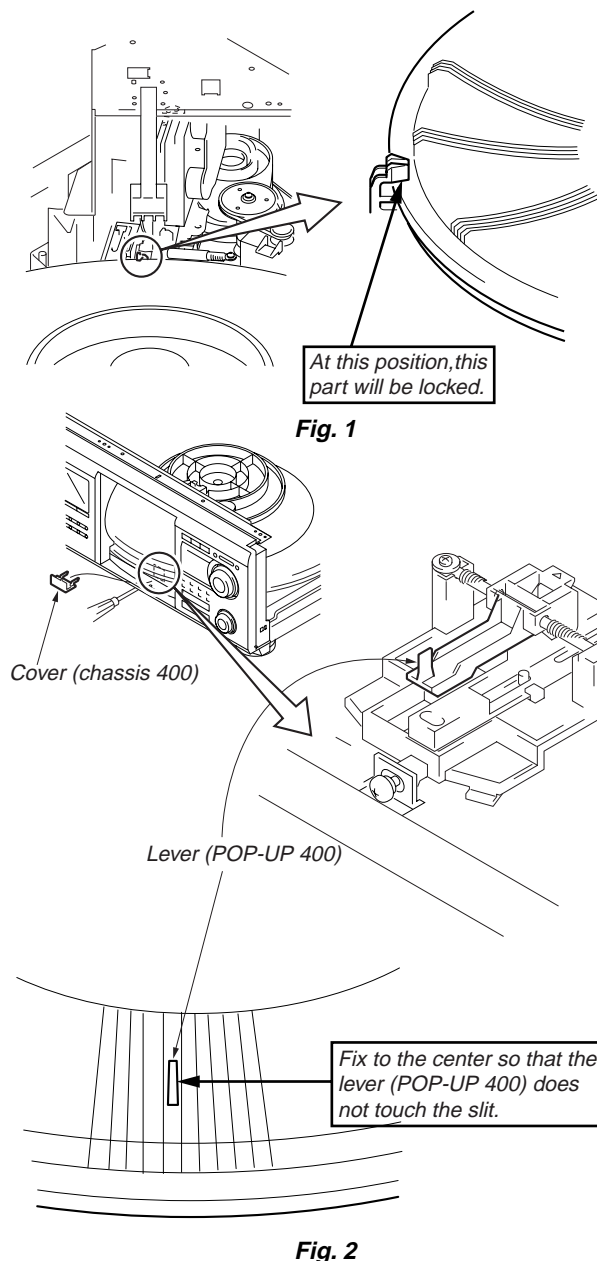

Fig. 2
7. Loosen the adjusting screw, move the screwdriver left and right until the lever (POP UP) does not touch the slit wall, and secure the screw. (Fig. 2)